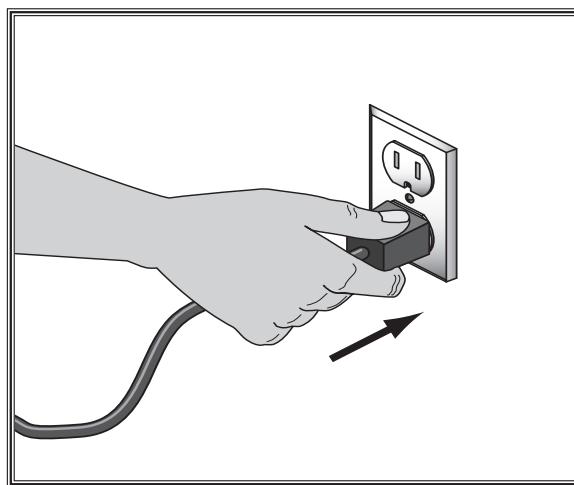

Figure 18. Connecting power
2. Insert the power cord plug into a matching power supply receptacle, as shown in **Figure 18**. The machine is now connected to the power source.